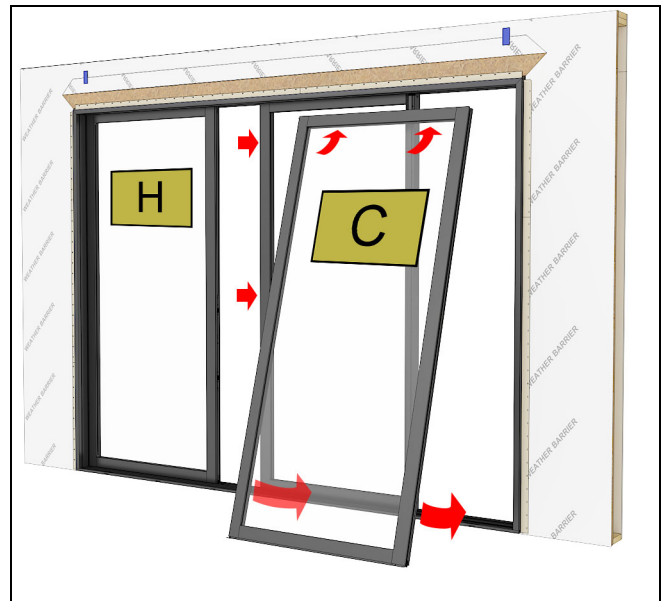
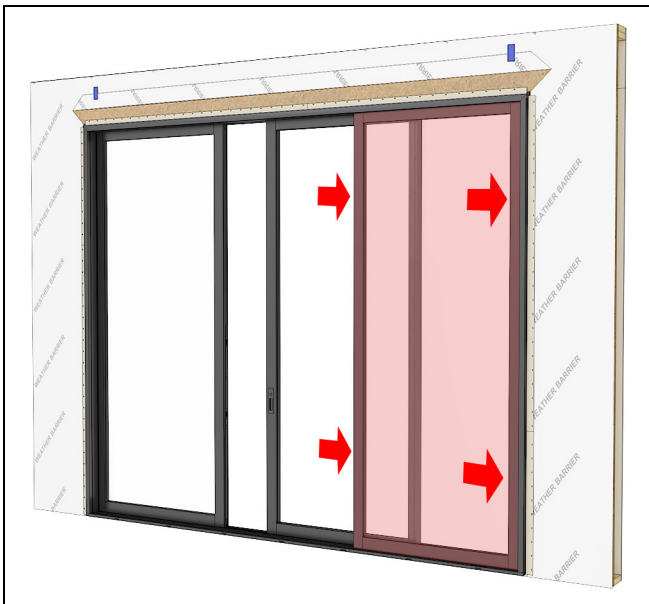

Figure 101
Figure 102
9. Install the second stationary panel (C) on the outside track, slide the panel tight against the jamb. See Figure 101 and Figure 102.